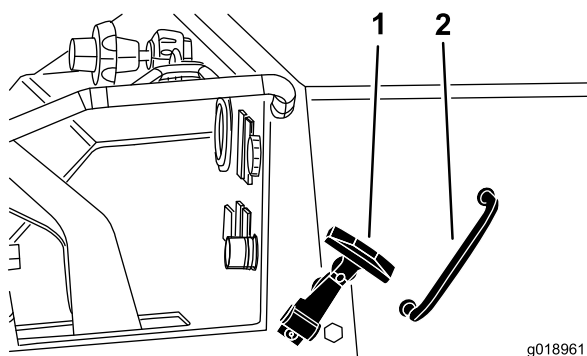

Figure 23
1. Pull the rubber hood latch (each side of hood) from the hood bracket (Figure 23).